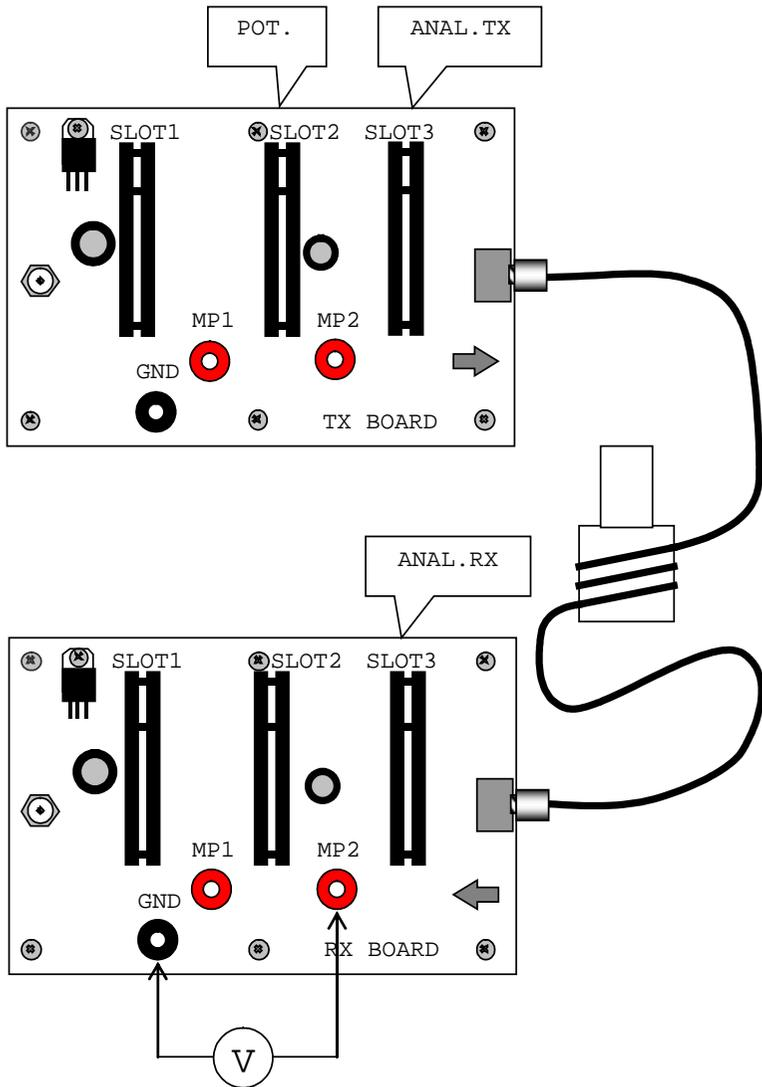

Figure 7: The set-up diagram of the experiment of attenuation caused by a bend.
2. Insert the analogue transmitter into Slot 3, as given in Figure 7.
1. Insert the analogue transmitter into Slot 3 and the potentiometer into Slot 2 of the main transmitter panel, following the order as given in Figure 7.